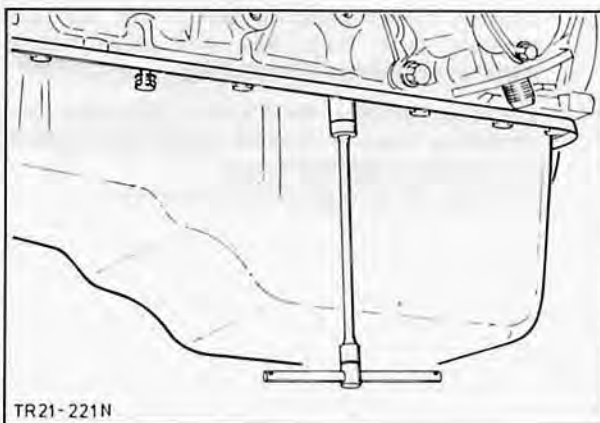

Fig. 36. Detach oil sump
16. Remove sump, Fig. 36. Detach sump with engine mounted upright in the stand. This is to avoid sludge or swarf getting into engine.